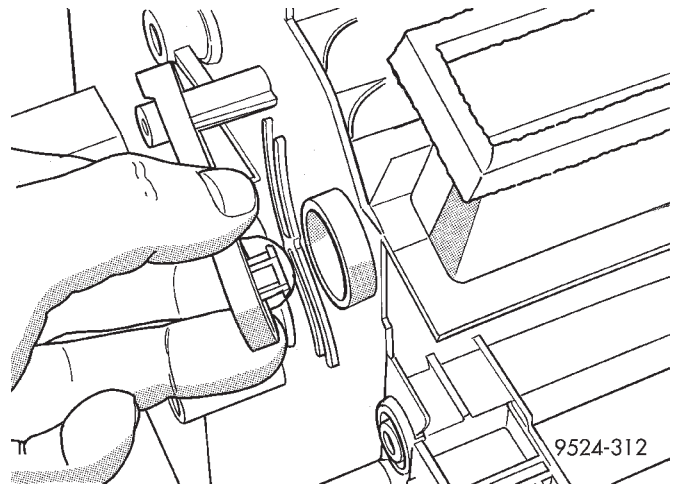
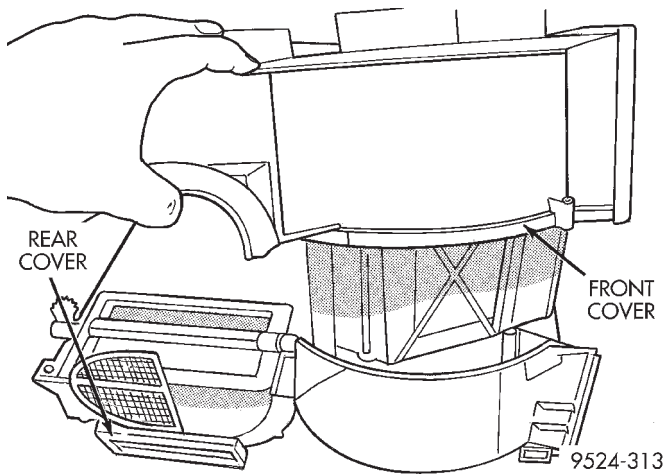

Fig. 105 Defrost Door Lever Link
Fig. 106 Front And Rear Housing Halves
- (34) Unsnap defrost door lever link from housing (Fig. 105).
- (35) Remove defrost door seal from housing.
- (36) Remove A/C housing rear cover half from front half (Fig. 106).